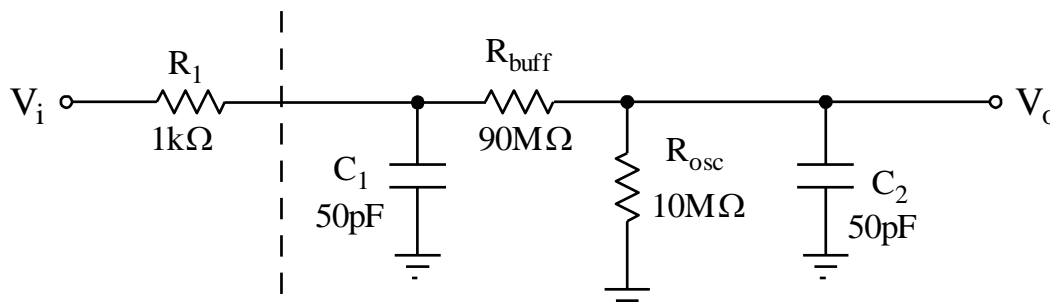

Figure PL1.2(c)
- (c) One way to reduce the effective capacitance loading the original “circuit under test” is buffer the circuit from the oscilloscope input by adding a series resistor R_{buff} between the test circuit and the input of the oscilloscope, as shown in Fig. PL1.2(c).
- (i) Determine the input impedance of the circuit to the right of the dashed line in Fig. PL1.2(b) in terms of C_1 , C_2 , and R_{osc} . Call it Z_{in1} .
- (ii) Determine the input impedance of the circuit to the right of the dashed line in Fig. PL1.2(c) in terms of C_1 , C_2 , R_{buff} , and R_{osc} . Call it Z_{in2} .